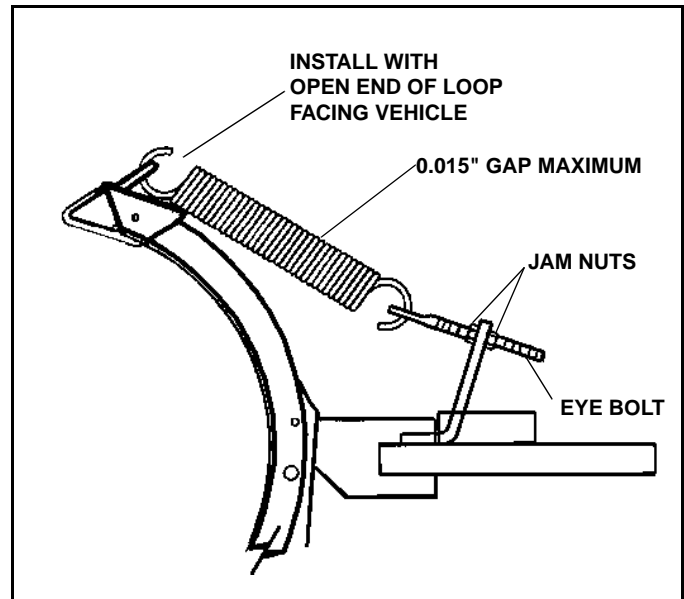

Figure 4-11
2. Insure that Blade Spring is installed as illustrated with open end of top loop facing vehicle. (See Figure 4-11)
3. Adjust springs by loosening jam nuts on end of the eye bolts and turning opposing nut in proper direction. (See Figure 4-11)